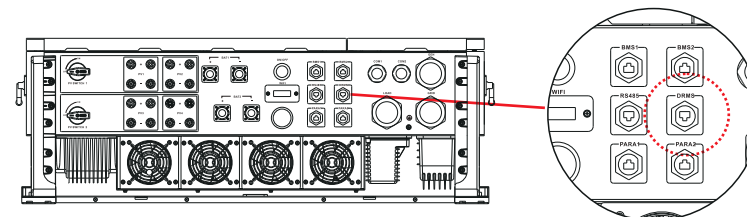

Figure 4.6-1 DRMS interface
Step 1. Screw this plate off from the inverter. See Figure 4.6-1.